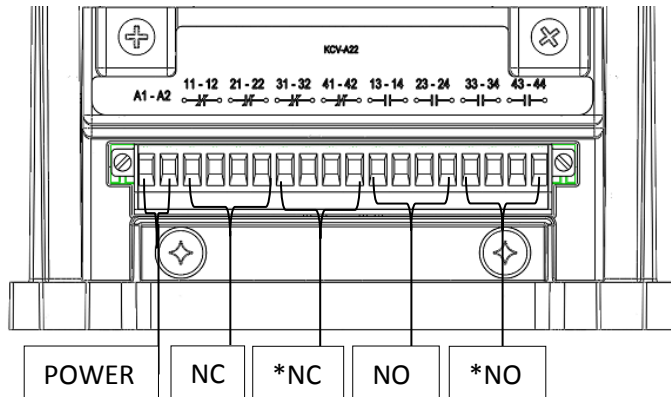
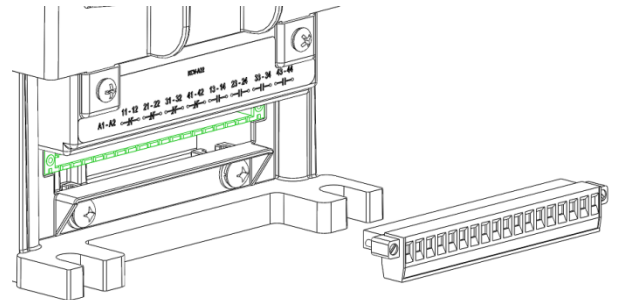

FIGURE 4
FIGURE 5
2. Connect control wire to the terminals (FIGURE 5) and tighten to 7 inch-lbs. Terminal connections are as shown (FIGURE 4).